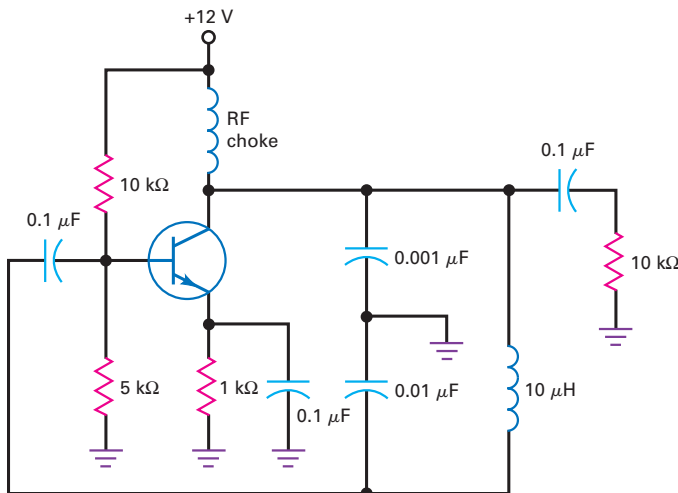

Figure 38-37
- 38.2** What is the approximate frequency of oscillation in Fig. 38-37? The value of B ? For the oscillator to start, what is the minimum value of A_v ?
- 38.3** What can you do to the inductance of Fig. 38-37 to double the frequency of oscillation?
- 38.4** If 47 pF is connected in series with the $10 \text{ }\mu\text{H}$ of Fig. 38-37, the circuit becomes a Clapp oscillator. What is the frequency of oscillation?
- 38.12** Select a value of L in Fig. 38-37 to get an oscillation frequency of 2.5 MHz .